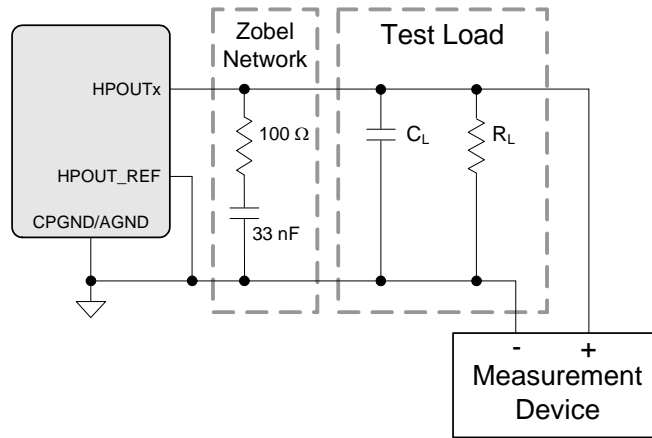
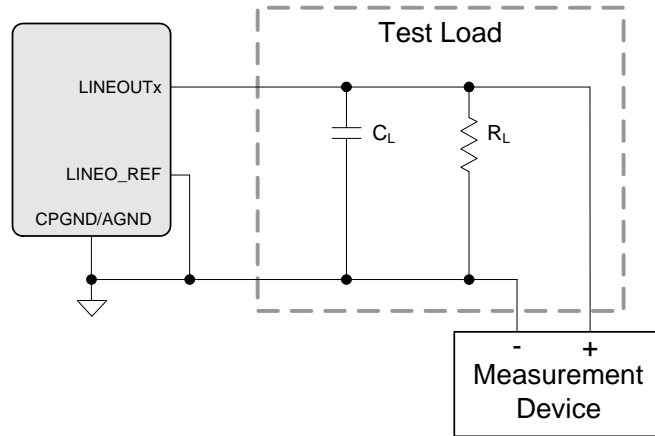

Figure 5. Headphone Output Test Configuration
Figure 6. Line Output Test Configuration
Test conditions (unless otherwise specified): Connections to the CS42L73 are shown in the “Typical Connection Diagram” on page 17 (including Zobel Networks on outputs); Input test signal is a 24-bit full-scale 997 Hz sine wave with 1 LSB of triangular PDF dither applied; GND = AGND = PGND = CPGND = DGND = 0 V; all voltages are with respect to ground (GND); VA = VCP = 1.80 V; TA = +25 °C; VCP Mode; Measurement Bandwidth is 20 Hz to 20 kHz; Fs = 48 kHz (Note 9); ASP is utilized and is in slave mode with Fs_{ext} = 48 kHz; test loading is configured as per Figure 5 on page 30 (RL and CL (= CL(Max)) as indicated in the table below); Mixer Attenuation and Digital Volume = 0 dB, Digital and Analog Mutes are disabled.
34. Refer to Figure 5 on page 30 and Figure 6 on page 32 to observe Headphone and Line Output test configurations.
Test conditions (unless otherwise specified): Connections to the CS42L73 are shown in the “Typical Connection Diagram” on page 17; Input test signal is a 24-bit full-scale 997 Hz sine wave with 1 LSB of triangular PDF dither applied; GND = AGND = PGND = CPGND = DGND = 0 V; all voltages are with respect to ground (GND); VA = VCP = 1.80 V; TA = +25 °C; VCP Mode; Measurement Bandwidth is 20 Hz to 20 kHz; Fs = 48 kHz (Note 9); ASP is utilized and is in slave mode with F_{Sext} = 48 kHz; test loading is configured as per Figure 6 on page 32 (R_L and C_L as indicated in the table below for R_{L(Min)} and C_{L(Max)}); Mixer Attenuation and Digital Volume = 0 dB, Analog Gain = +2 dB; Digital and Analog Mutes are disabled.